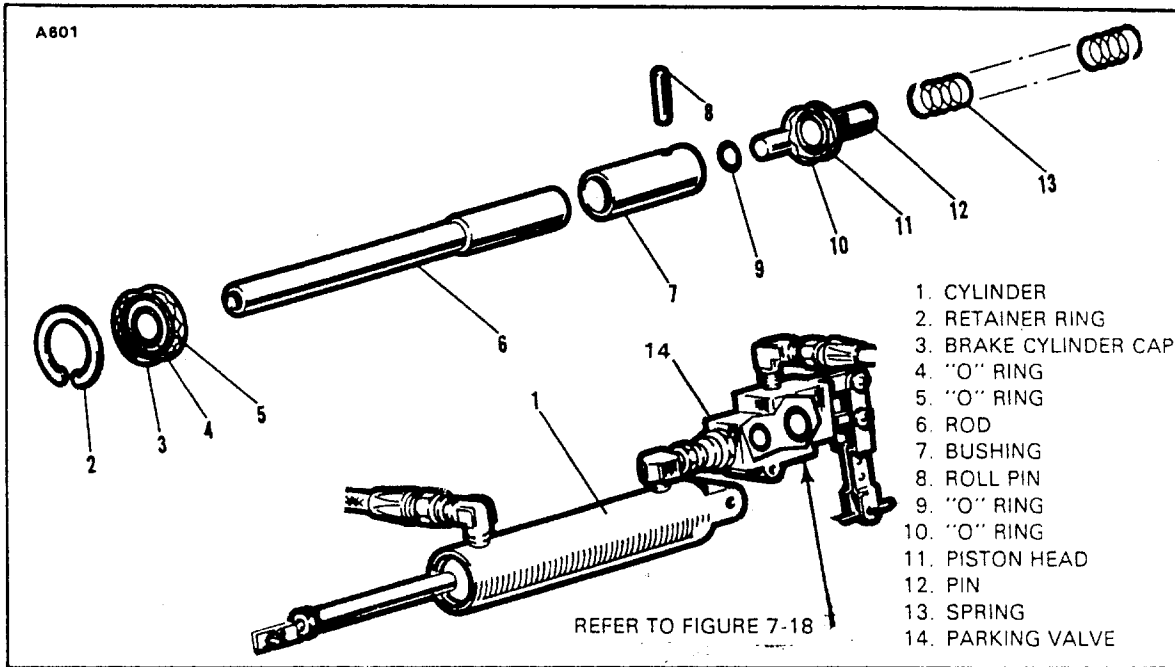
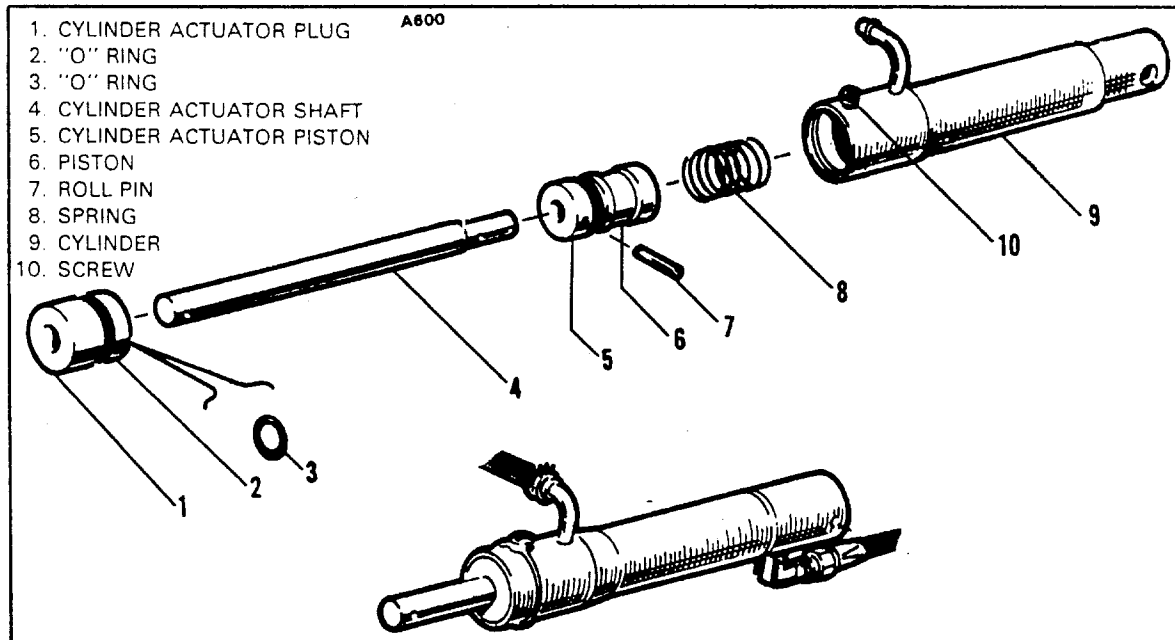
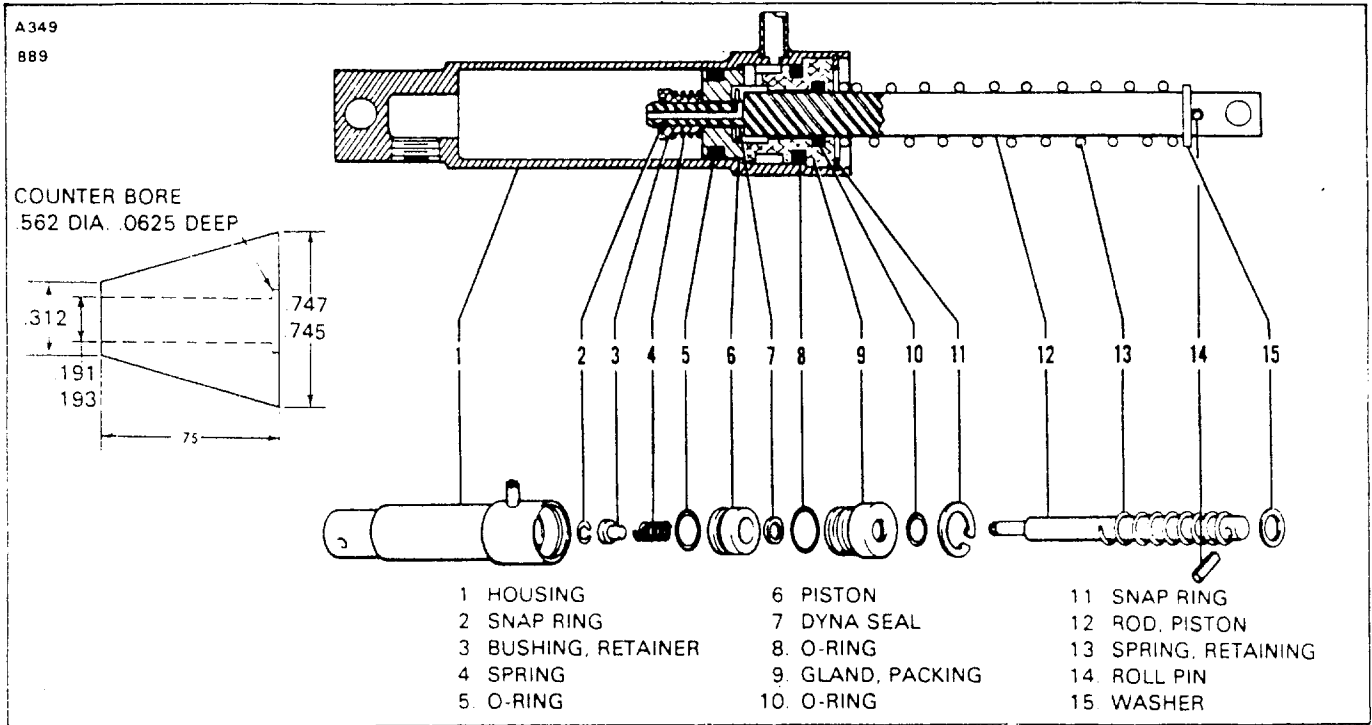

Figure 7-15. Brake Master Cylinder (Hand Brake)
Figure 7-16. Brake Master Cylinder (Hand/Parking Brake)
Figure 7-17. Brake Master Cylinder. (Hand/Parking Brake)
- a. PA-28-150, -160, Serial Nos. 28-1 to 28-250 incl. (Refer to Figure 7-15.)
2. To disassemble the cylinder, first remove the piston rod assembly by removing the retainer ring (2) from the annular slot at the rod end of the cylinder. Draw the piston rod assembly from the cylinder. Remove the spring (13) from the cylinder.
3. The piston rod assembly may be disassembled by first removing the clevis end from the piston rod (6) and then sliding off the brake cylinder cap (3).
4. Remove the roll pin (8) from the bushing (7) thus releasing the piston head and O-rings (9 and 11).
- b. PA-28-140, Serial Nos. 28-20002 to 28-21036 incl; PA-28-150, -160, -180 Serial Nos. 28-251 to 28-2700 incl; PA-28-235, Serial Nos. 28-10003 to 28-10679 incl. (Refer to Figure 7-16.)
2. Cut the safety wire and remove screw (10) that secures the plug (1) in the end of the cylinder (9).
3. Remove the plug (1) and piston assembly from the cylinder by pulling the cylinder actuator shaft (4) from the cylinder.
4. Remove the spring (8) from within the cylinder.
5. Remove the roll pin (7) from the cylinder actuator piston (5) and pull off the piston.
- c. PA-28-140, Serial Nos. 28-21037 and up; PA-28-150, -160, -180, Serial Nos. 28-2701 and up; PA-28-235, Serial Nos. 28-10698 and up. (Refer to Figure 7-17.)
2. To disassemble the cylinder, first remove the piston rod assembly by removing the snap ring (11) from the annular slot at the rod end of the cylinder. Draw the piston rod assembly from the cylinder.
3. The piston rod assembly may be disassembled by first removing the small snap ring (2) securing the retainer bushing (3), spring (4), piston (6), seal (7), gland (9), and, if desired, the large retainer spring (13).
- PA-28-150, -160, Serial Nos. 28-1 to 28-250 incl. (Refer to Figure 7-15.)
- b. PA-28-140, Serial Nos. 28-20002 to 28-21037; PA-28-150, -160, -180, Serial Nos. 28-251 to 28-2700 incl; PA-28-235, Serial Nos. 28-10003 to 28-10697 incl. (Refer to Figure 7-16.)
1. Install the new "O" rings (2 and 3) on the cylinder plug (1).
2. Install the cylinder actuator piston (5) on the actuator shaft (4) and secure with the roll pin (7).
3. Install a new "O" ring (6) on the actuator pin.
4. Place the spring (8) into the cylinder housing, and carefully slide the actuator and shaft assembly into the housing.
5. Install the plug assembly (1) on the shaft and install the screw through the housing.
- c. PA-28-140, Serial Nos. 28-21037 and up; PA-28-150, -160, -180, Serial Nos. 28-28-2701 and up; PA-28-235, Serial Nos. 28-10698 and up. (Refer to Figure 7-17.)
1. Install new "O" ring on the inside and outside of the packing gland (9) and on the outside of the piston (6). (When installing teflon "O" ring (5) on piston, it is recommended that it be installed with the use of a cone placed against the piston. The cone may be constructed of plastic or metal with dimensions shown in Figure 7-17.)
2. To assemble the piston rod assembly, install on the rod (12), in order, the roll pins (14), return spring retainer washer (15), retaining spring (13), packing gland (9) with "O" rings (10), seal (7), piston (6) with "O" ring, spring (4) and retainer bushing (3). Secure these pieces with snap ring (2) on the end of the rod.
3. Insert the piston rod assembly in the housing (1) and secure packing gland with snap ring (11).